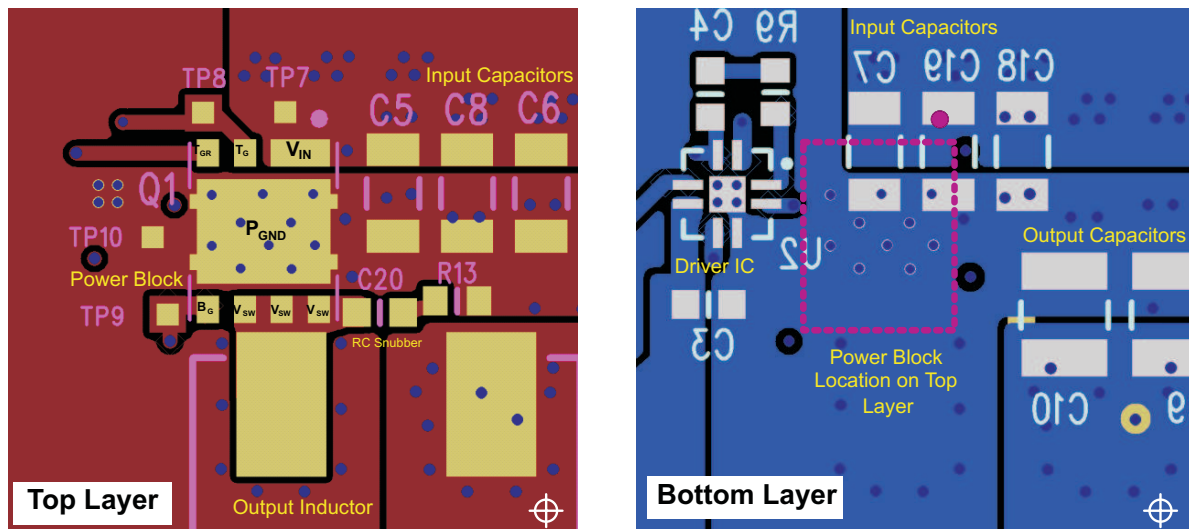

图 33. Recommended PCB Layout (Top View)
- The placement of the input capacitors relative to the Power Block's VIN and PGND pins should have the highest priority during the component placement routine. It is critical to minimize these node lengths. As such, ceramic input capacitors need to be placed as close as possible to the VIN and PGND pins (see Figure 33). The example in Figure 33 uses 6 × 10-μF ceramic capacitors (TDK Part # C3216X5R1C106KT or equivalent). Notice there are ceramic capacitors on both sides of the board with an appropriate amount of vias interconnecting both layers. In terms of priority of placement next to the Power Block, C5, C7, C19, and C8 should follow in order.
- In the event the switch node waveform exhibits ringing that reaches undesirable levels, the use of a Boost Resistor or RC snubber can be an effective way to reduce the peak ring level. The recommended Boost Resistor value will range between 1 Ω to 4.7 Ω depending on the output characteristics of Driver IC used in conjunction with the Power Block. The RC snubber values can range from 0.5 Ω to 2.2 Ω for the R and 330 pF to 2200 pF for the C. Refer to TI App Note SLUP100 for more details on how to properly tune the RC snubber values. The RC snubber should be placed as close as possible to the Vsw node and PGND see Figure 33.⁽¹⁾
- Use the smallest drill size allowed in your design. The example in Figure 33 uses vias with a 10 mil drill hole and a 16 mil capture pad.